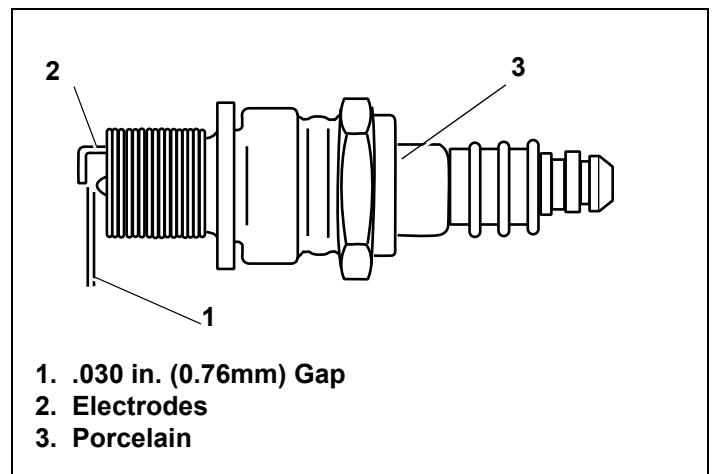

Figure 41. Resistor Spark Plug
4. Check electrode gap with wire feeler gauge and set gap to .030 in. (0.76mm) if necessary. See Figure 41.